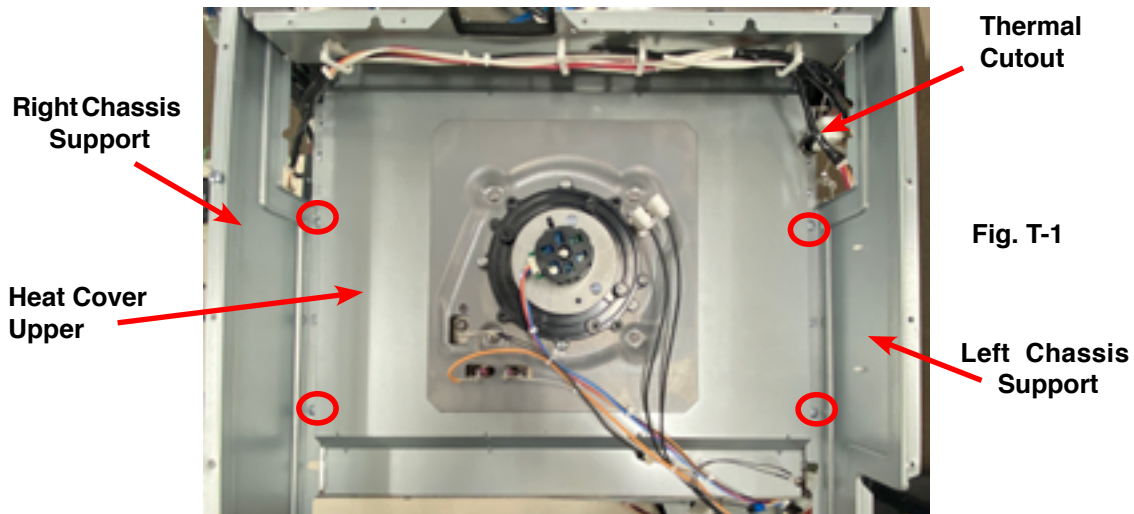

Fig. T-1
2. Remove the Left & Right Chassis Support (6) screws, Heat Cover Upper (3) screws, plus Thermal Cutout. (**Fig. T-1**)
4. Lift off Heat Cover Upper and insulation. (**Fig. T-1**)